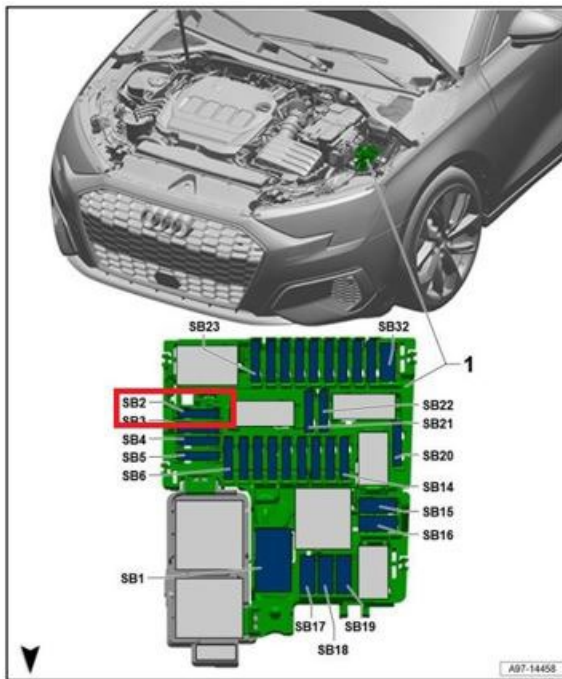

Figure 1: Fuse carrier B in engine compartment.
- Remove fuse SB2 on fuse carrier B in engine compartment (front left). Refer to figure 1.